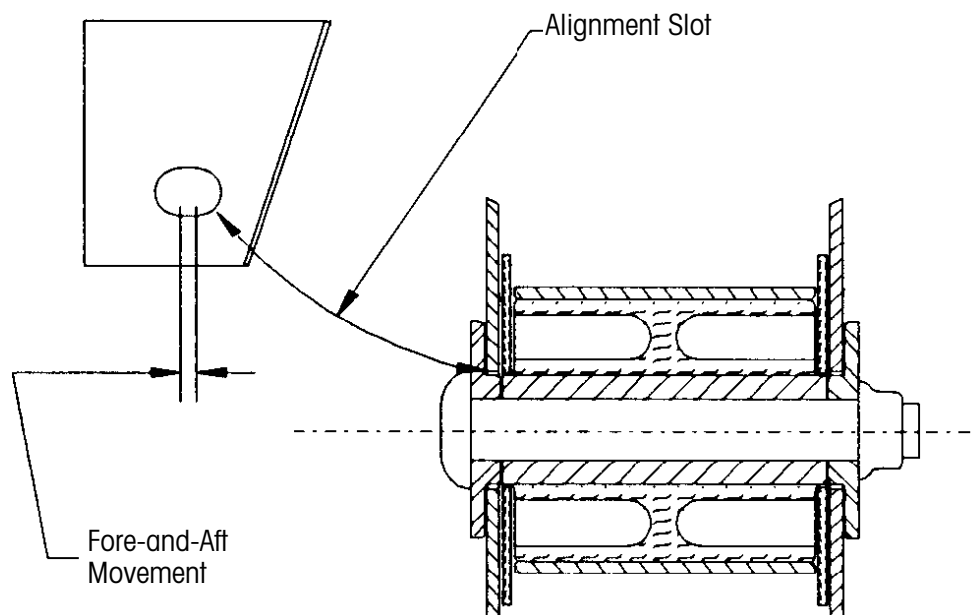

Figure 10. Fore-and-aft movement shown on the welded-collar type frame bracket
- b. Adjust the side with the maximum available adjustment (Figure 10).